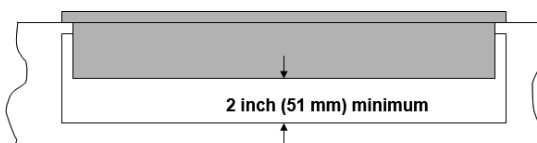

Fig. 3
- Allow a 2" minimum clearance between the bottom of the metal pan of the cooktop and any combustible surface located below, i.e.: the upper edge of a drawer installed below the cooktop (refer to Fig. 3). Failure to provide proper clearances and ventilation may result in a fire hazard.